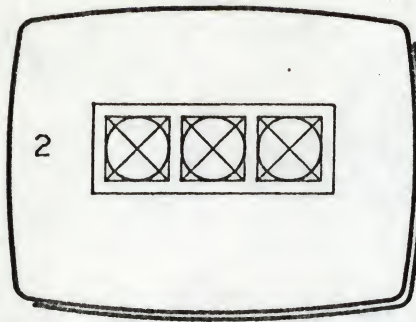

Fig 2
- 6 Add some lines to it as in Fig 2.